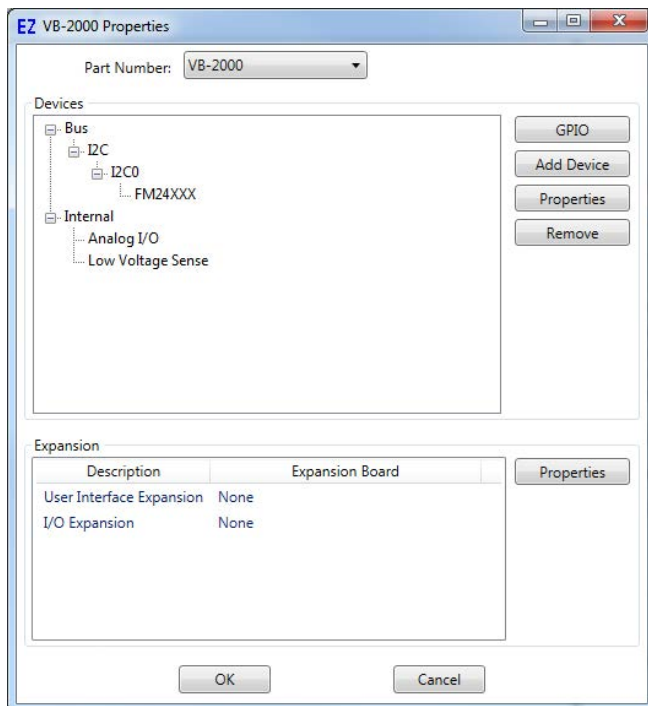

Figure 7-5
5. The PLCHIP_Pxx_eeprom Properties window will open. This window is used to configure the number of EEPROM bytes to be blocked for retentive memory use only. See the Retentive Memory / Memory Limitations part of this manual section for details on how and when EEPROM may be used for retentive. Refer to Figure 7-5. Leave the Num Retentive Bytes set to zero unless you are planning to use the EEPROM for retentive memory storage.